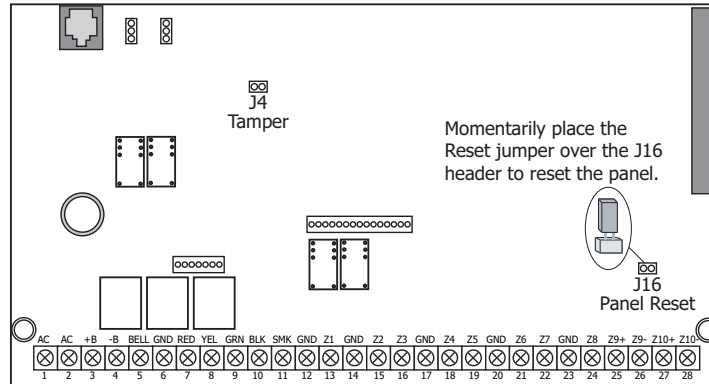

Figure 1: XR200-485 Panel Showing Reset
1. Install the reset jumper across the two J16 reset pins for two seconds. See Figure 1.